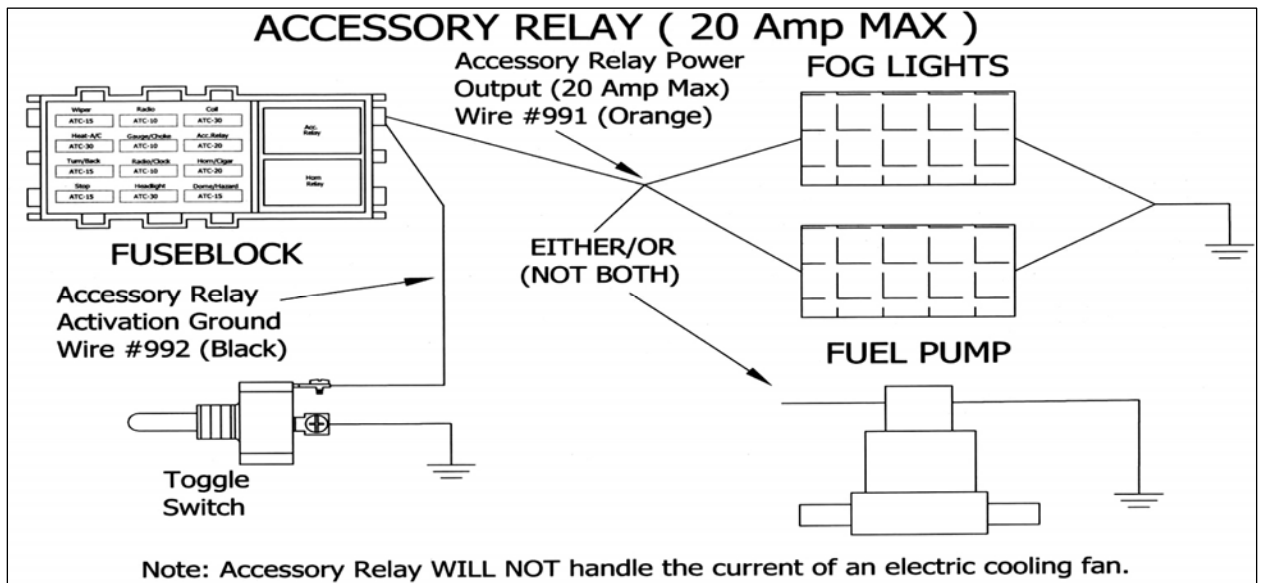

Figure 7-45 Accessory Relay Diagram
- 7.13.4 The final Accessory component in this Ford Truck chassis harness is a 20amp accessory relay output. The relay is preinstalled in the fuse block, powered, and fused. It ONLY requires a ground to be activated. **See Figure 7-45.**